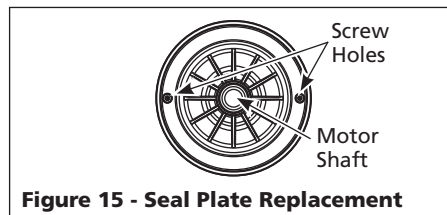

Figure 15 - Seal Plate Replacement
2. Carefully slip seal plate over shaft so as not to disturb seal position in seal plate. The seal plate must be orientated during assembly so that the two holes are on a horizontal line across the motor shaft and the (4) locating pins on the back of the seal plate line up with the tabs on the motor housing (Figure 15). This placement should be done to ensure proper draining and priming.